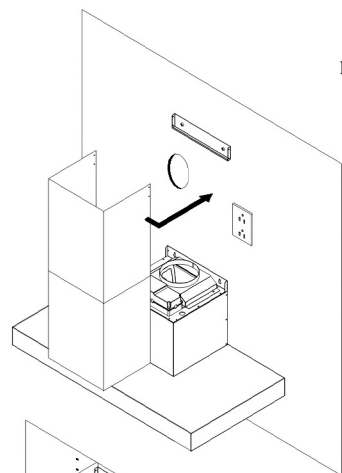

Figure 5
7. Install both chimneys and tighten screws to secure the lower chimney to the range hood as shown in Figure 5.